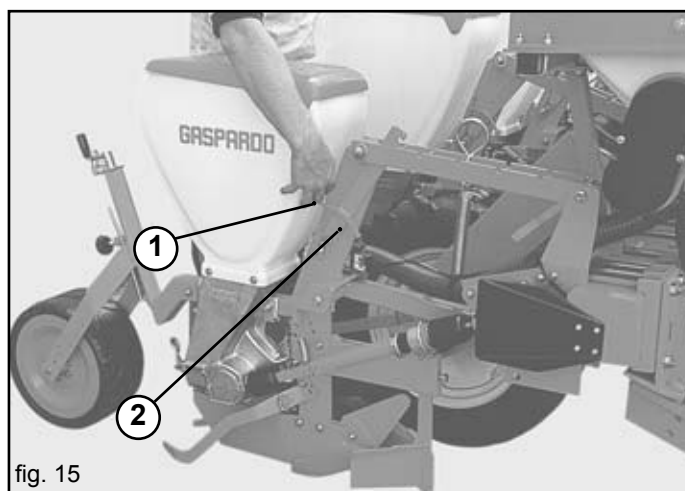

fig. 15
- Hook the spring the position 1 (Fig.15)
- Hook the spring the position 2 (Fig.15);